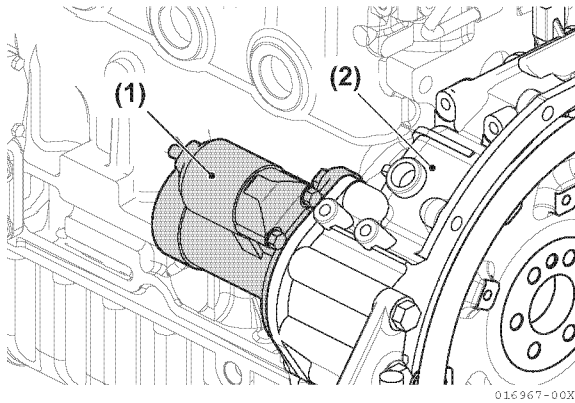

Figure 5-10
7. Remove the starting motor from the flywheel housing (**Figure 5-10**).